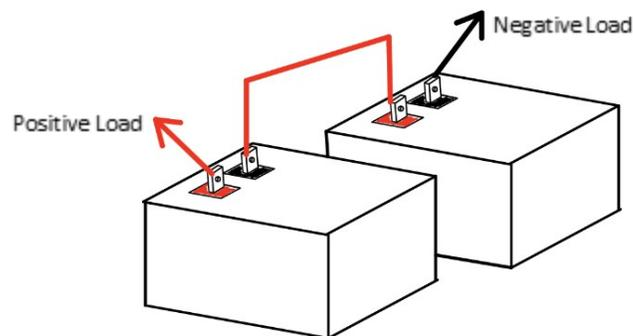

Figure 4: Two 8D Batteries Connected in Series to create a 24V 270Ah Battery Bank
When batteries are connected in series, current capacities remain the same, but the system voltage is additive. For example, two BB8D batteries connected in series form a nominally 24V system (shown in Fig. 4) and should be charged using a bulk and absorption voltage of 28.8V, and a float voltage of 27.2V.
7. Repeat steps 3-6 for additional batteries, but **DO NOT** exceed 48V. An example of a correct series connection can be found below in Fig. 4.